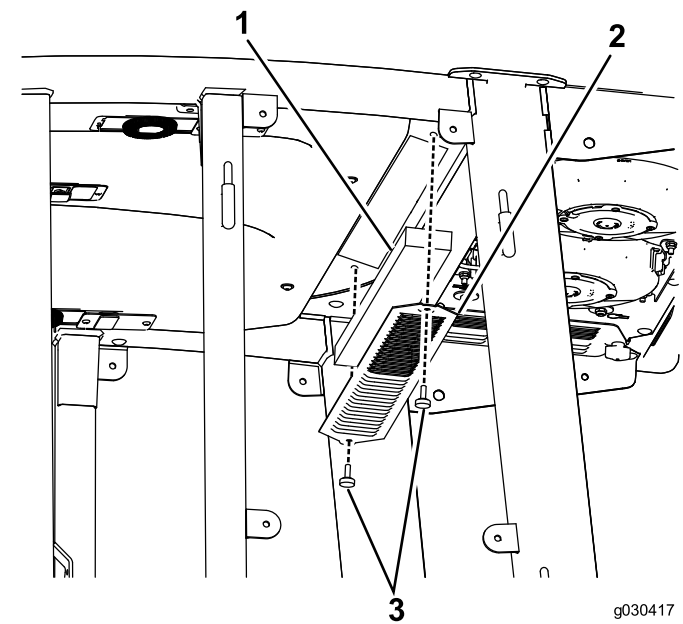

Figure 22
- Remove the thumb screws and the grates from both the in-cab and rear-cab air filters (Figure 22).